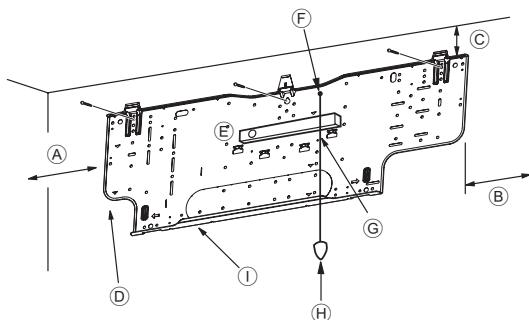
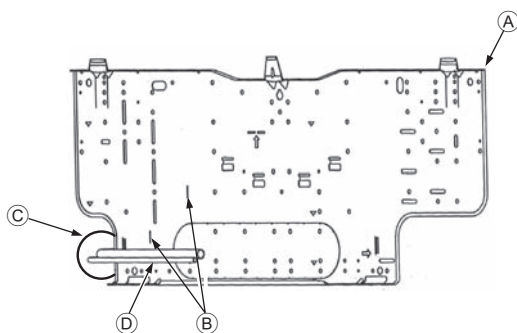

Fig. 3-4
Fig. 3-5
■ PKA-RP-HAL (Fig. 3-4)
- Ⓓ Fixing screws (4 × 35) ②
- Ⓘ Mount board ①
3.3. When embedding pipes into the wall (Fig. 3-5)
- Ⓐ Mount board ①